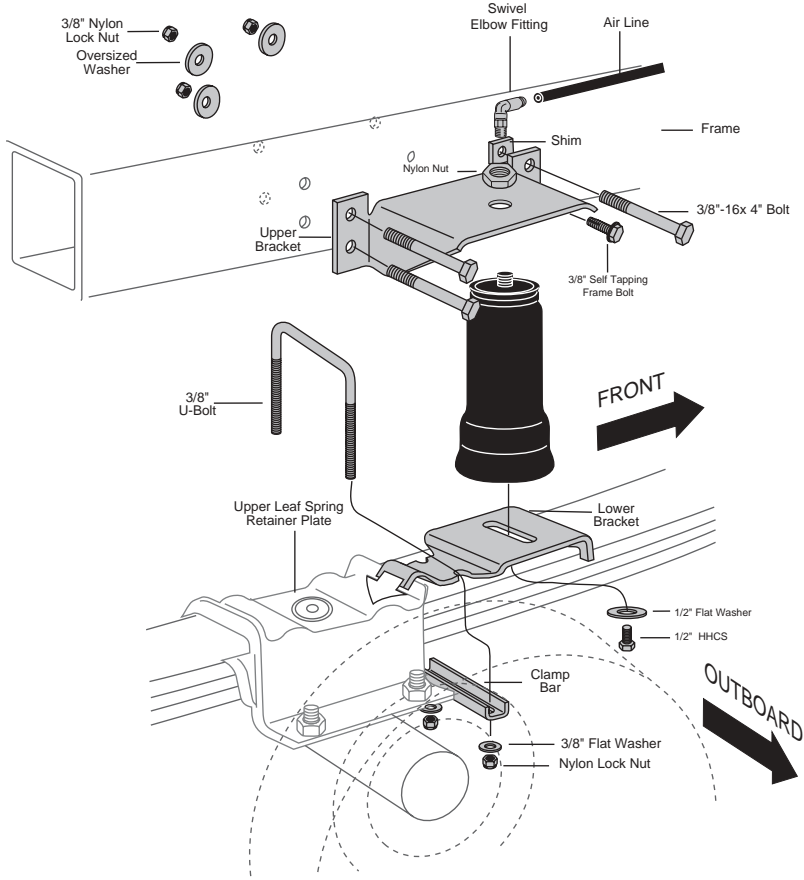

Figure 2
- a. Centerpunch and drill a 3/8" hole through the forward, upper mounting hole. Place a shim (U) between the upper bracket and the frame and attach using a 3/8" bolt. Secure using a flat washer (M) and a nyloc nut (J) (Figure 2). Leave loose at this time.